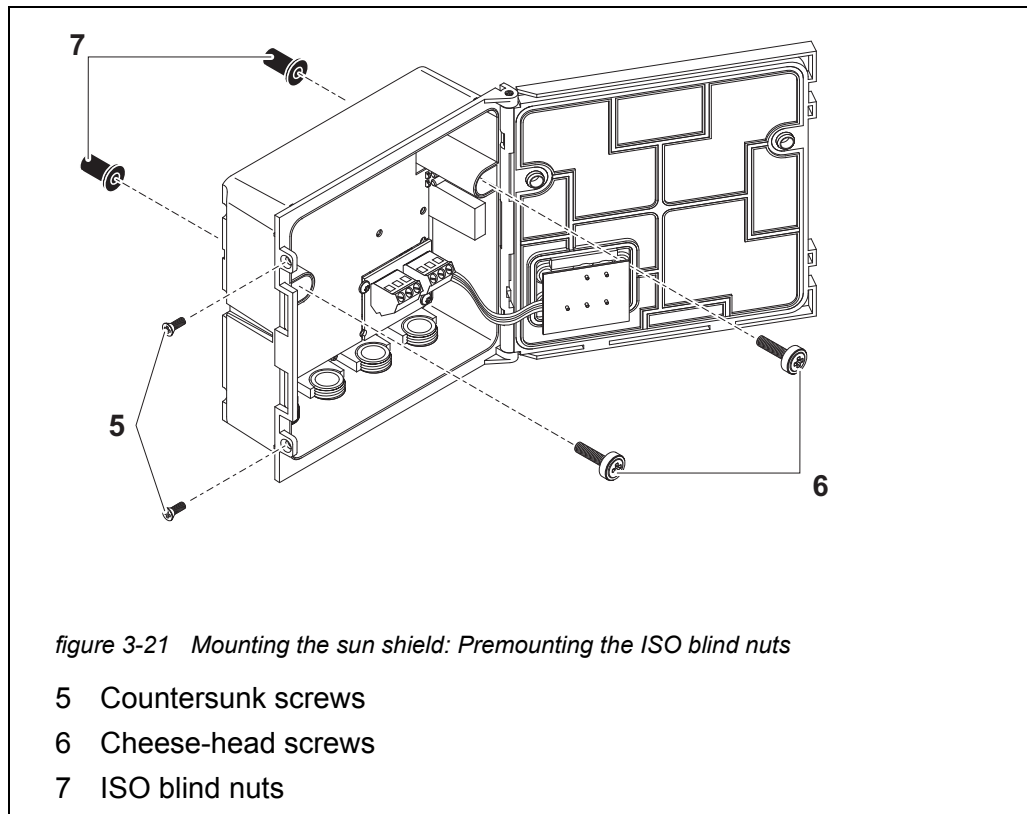

figure 3-21 Mounting the sun shield: Premounting the ISO blind nuts
- 2 Remove the two countersunk screws (pos. 5 in figure 3-21) and swing open the module lid.
- 3 Insert the cheese-head screws (pos. 6 in figure 3-21) with the plastic washers in the drilled mounting holes and loosely screw in the ISO blind nuts (pos. 7).
- 4 Position the MIQ module on the sun shield and fix it into place with the two screws (pos. 6 in figure 3-21).
- 5 Close the module lid and fix it with the two countersunk screws (pos. 5 in figure 3-21).